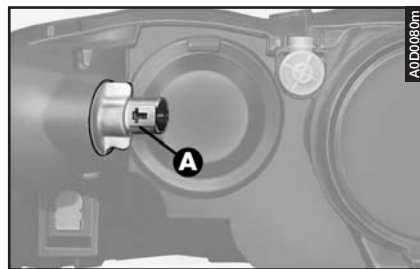

fig. 48
- Turn counter-clockwise and remove the bulb holder (**A- fig. 48**), without disconnecting the connector.